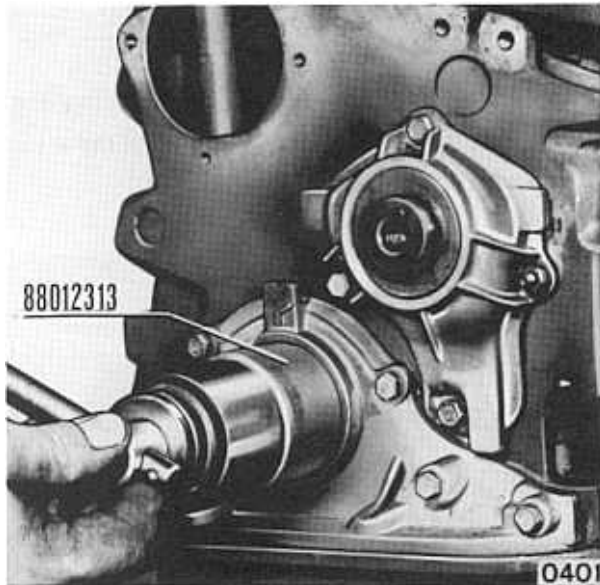

Fig. 01 2/61 - Installer 88012313 for oil seal fitting
Refit the pipe union (4) (see fig. 01 2/57),